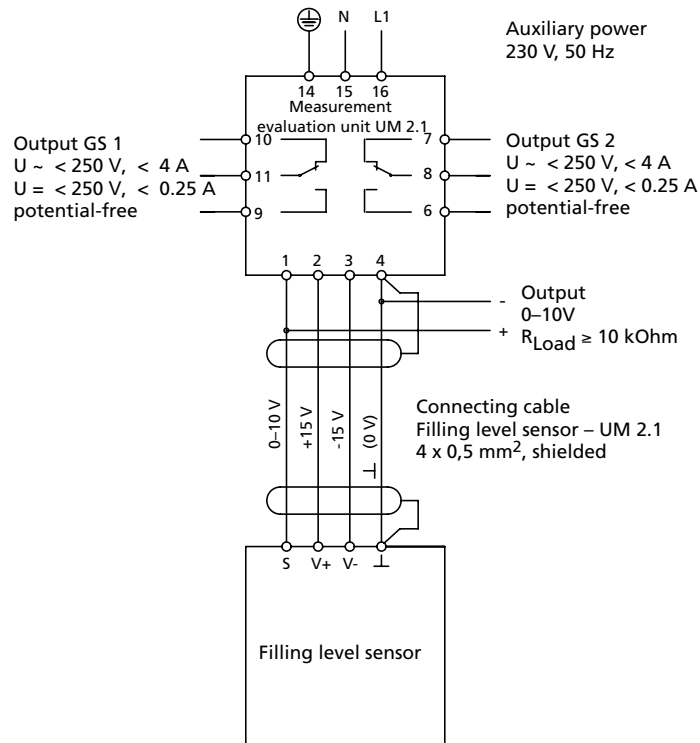

Fig. 2a: Connection of the measurement evaluation unit UM 2.1
2. Connect up measurement evaluation unit in accordance with Figs. 2a, 2b, 2c and 2d.